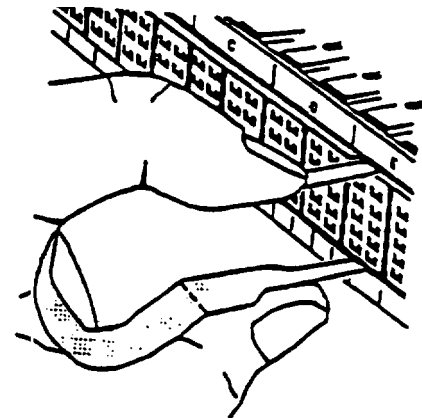

Figure 24. Series II Rail Tool Insertion
a. Slide the double-sided tool down the indents of the block to the maximum depth to unlock the retaining clips (Figure 24).